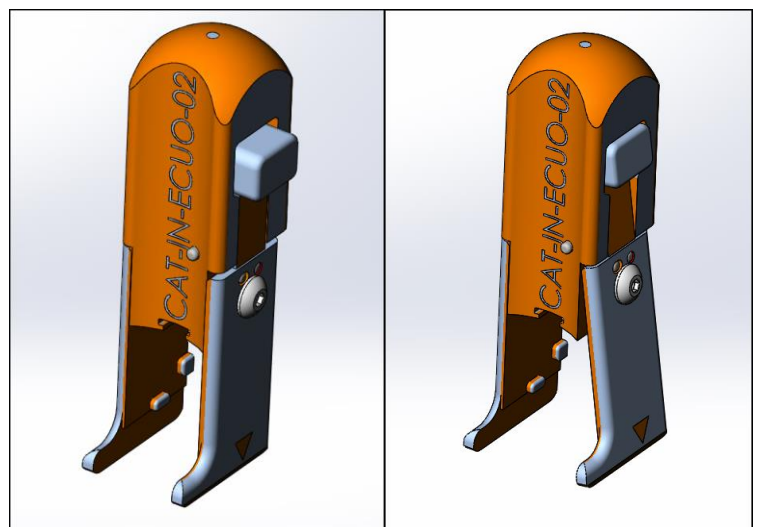

FIGURE 2
2. Pick up the insertion tool and press the button located on the side, as seen in **Figure 2**.
2. Pick up the insertion tool and press the button located on the side, as seen above in **Figure 2**.